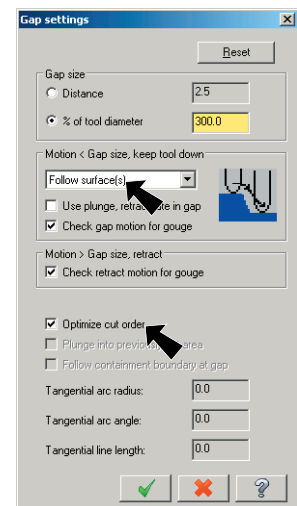

Fig. 92
Step 30. Under Motion, select **Follow surface(s)**, Fig. 92.